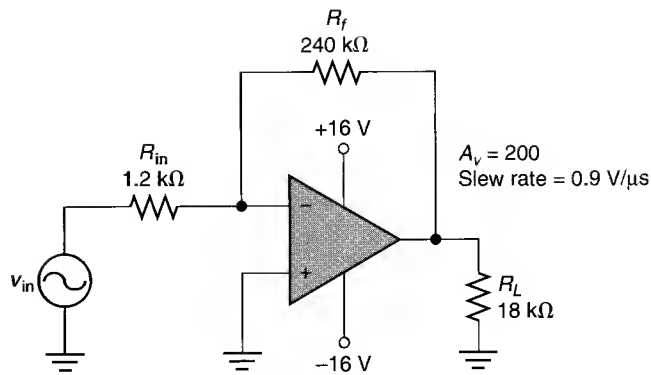

FIGURE 15.54
7. Determine the maximum allowable peak-to-peak input voltage for the amplifier in Figure 15.54.
9. The amplifier in Figure 15.54 has an output offset voltage of 2.4 V. Determine the input offset voltage for the circuit.
11. Determine the maximum operating frequency for the amplifier in Figure 15.54. Assume that the circuit has a 10 mV_{PP} input signal.